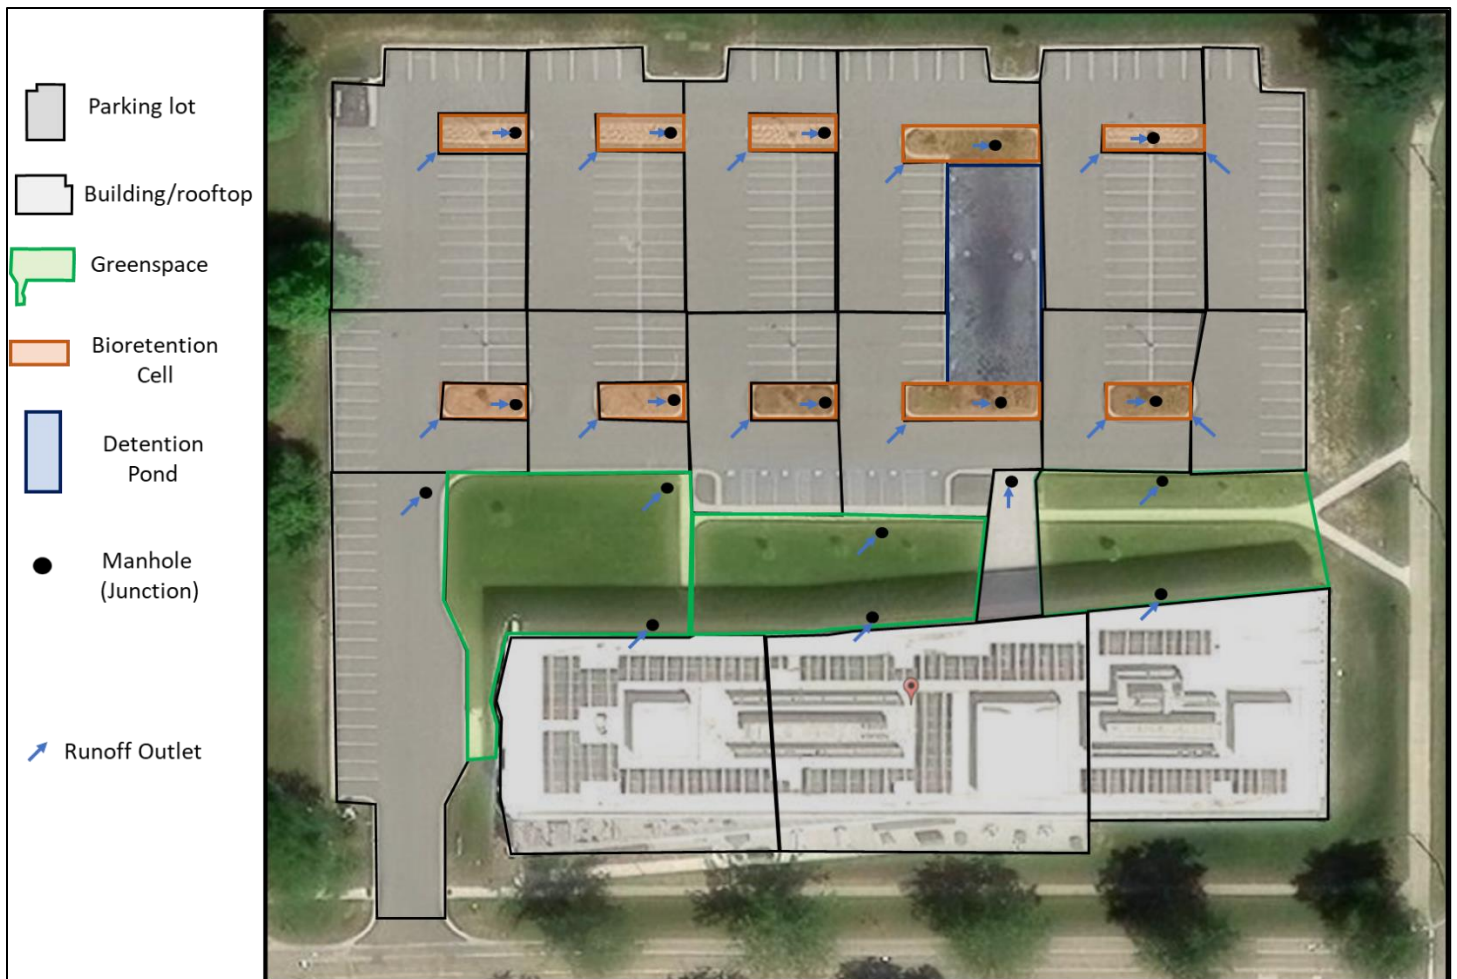
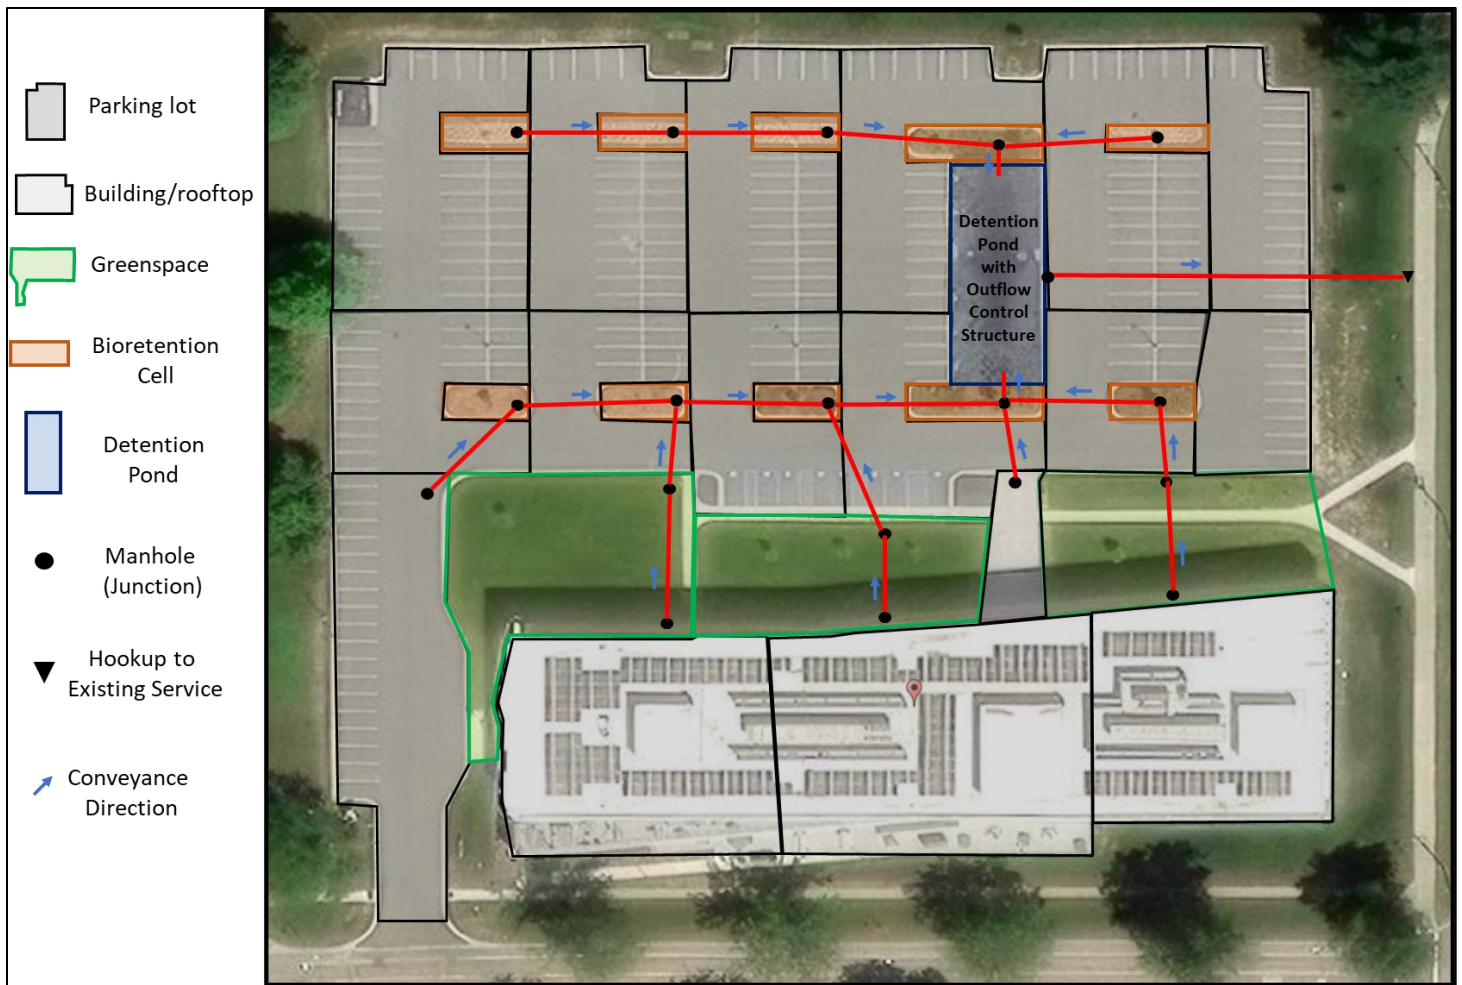

Figure 2 – Runoff routing design of the storm-sewer system.
Figure 3 – Subsurface conveyance (pipe network) design of the storm-sewer system.
Under natural conditions, storm water slowly drains from west to east, following the gentle slope of the land within the proposed parcel area. A storm-water system design subdivides the property into 20 lots (or subcatchments): 3 “building” lots in the south (consisting of headquarter buildings, sidewalks, and outdoor patios); 13 parking areas; 3 green spaces, and the main entrance walkway (see Figure 2). It is proposed that storm water collected in the various subcatchments be routed to an on-site detention pond through an underground storm-sewer system consisting of conduits (pipes) and junctions (manholes) (see Figure 3). Flow is attenuated by a stormwater detention pond before being released to an existing downstream sewer line.
- Use Figure 2 as a guide for subcatchment positioning / size / extent.
- Mannings roughness (N) for impervious areas of Building lots can be assigned as 0.015
- Add a trapezoid-shaped Storage Unit in the location indicated in Figures 2 and 3
- StormNET requires that all models have a system outlet (Outfall) to perform simulation. Add one to the map in the location depicted in Figure 2.
- Draw the various junctions at the approximate locations indicated in Figure 2.
- This is done one-by-one for each subcatchment. Use the Runoff Outlet annotations in Figure 2 as a guide.